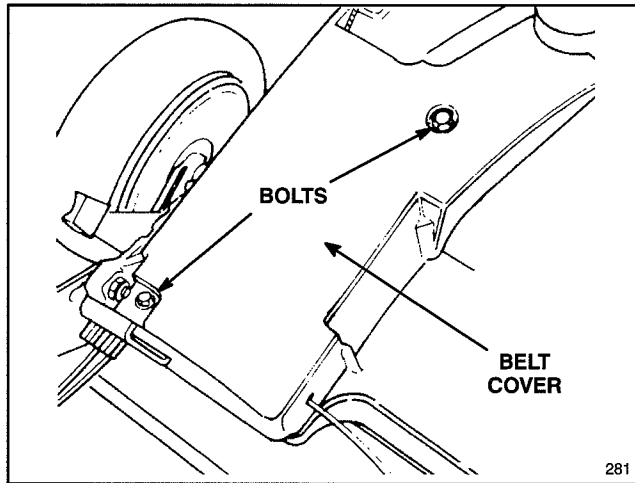

Figure 27
2. With engine turned off, remove bolts securing belt cover (Fig. 27) to mower housing. Lift off cover and brush out all debris from belt area. Reinstall belt cover.